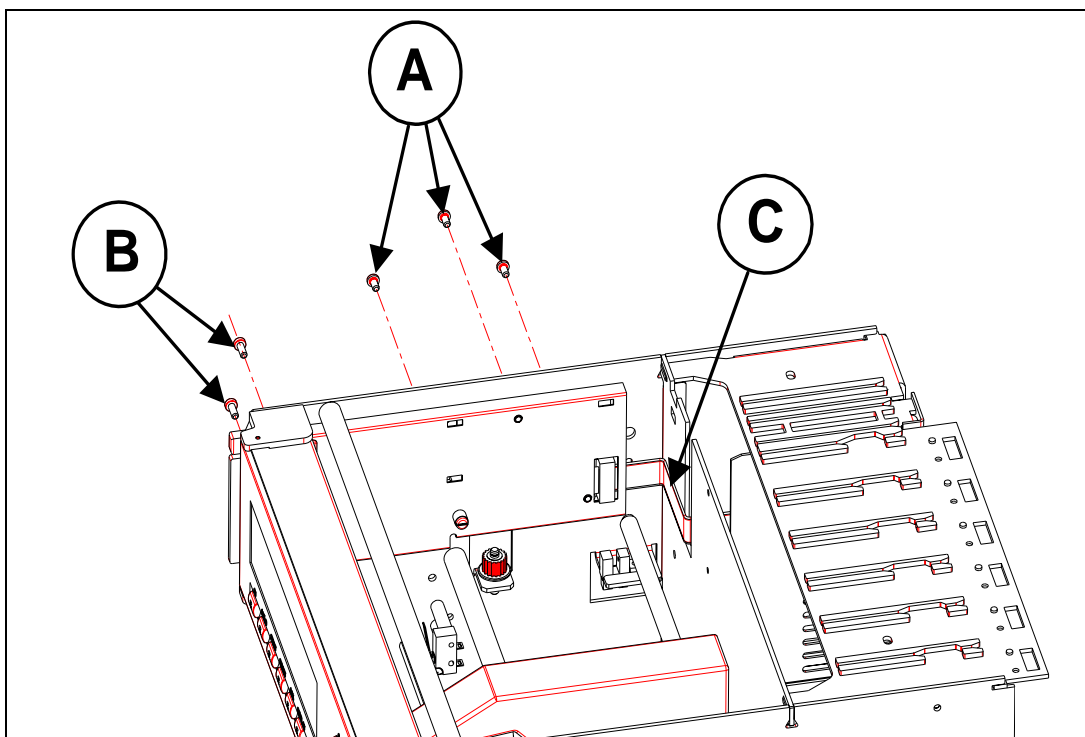

Figure 2-11
23. Remove the MMI with 2 screws (see B in Figure 2-11)
24. Put in place the PCMCIA sub-assembly on the left hand printer chassis side plate. (See Figure 2-11)
25. Fix the PCMCIA sub-assembly with the 3 screws M3. (See ref. A, Figure 2-11) one from the carriage stop.
- Fix the memory card guides with the 2 screws M2. (See ref. B, Figure 2-11) by reinstalling the MMI.
- Fix the PCMCIA flat cable on the rear metal sheet with the double-side adhesive tape. (See ref. C, Figure 2-11). The adhesive tape is located on the flat cable.